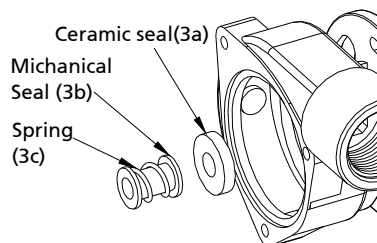

Figure 8
NOTE: Installing a new seal is always recommended when pump is disassembled to the point of seal removal. The precision carbon/ceramic faces on the mechanical seal are easily damaged. Handle your repair seal carefully. Do not touch the carbon/ceramic seal face. Proceed as follows and refer to Figures 8, 9 and 12.
6. Press the new ceramic seal into the housing with the ceramic portion of the ceramic seal facing away from the motor (See Figure 8).